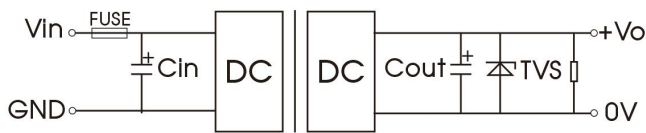

Fig.1
- (1) We recommended using the recommended circuit shown in Fig.1 during product testing and application, otherwise please ensure that at least a 220μF electrolytic capacitors is connected at the input in order to ensure adequate voltage surge suppression and protection.
- (2) We recommended increasing the value of Cin and pay attention to the unstable input voltage if the product input side is paralleled with motor drive circuit and/or larger energy transient circuits, to ensure the stability of input terminal and avoid repeatedly start-up problems due to input voltage lower than under-voltage protection point.
- (3) We recommended increasing the output capacitance with limited to the capacitive load specification and/or increasing the voltage clamping circuit(such as TVS) if the output terminal is inductive device such as relay or a motor, to ensure adequate voltage surge suppression and protection.
- (4) Input and/or output ripple can be further reduced by appropriately increasing the input & output capacitor values Cin and Cout and/or by selecting capacitors with a low ESR (equivalent series resistance). Also make sure that the capacitance is not exceeding the specified max. capacitive load value of the product.